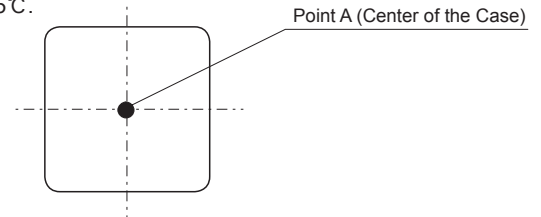

Fig.8.4 Temperature Measuring Point on the case (Top View)
(4) Temperature Measuring Point on the case.
■ In case of forced air cooling, please have sufficient ventilation to keep the temperature of point A in Fig.8.4 at 105°C or below.